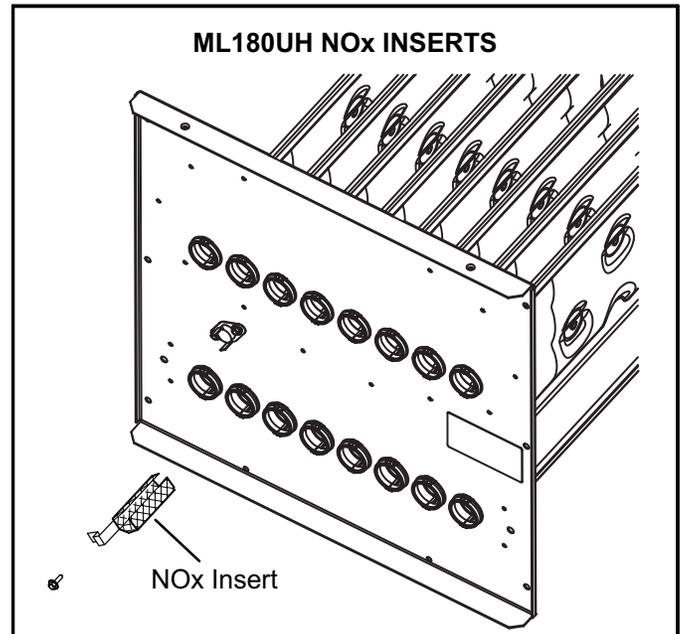

FIGURE 22
- 8 - **NOx units only** - Remove screw securing NOx insert. Remove NOx insert. See figure 22.